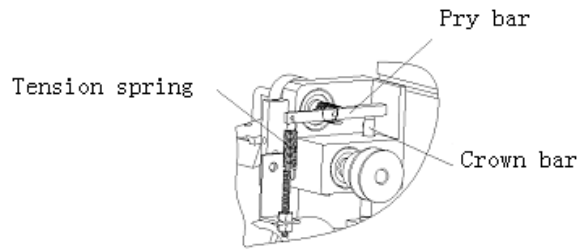

Fig5-3
a. Tensioning force of pry bar is too large or too small: properly adjust the pressure of roller wheel (see Fig5-3)